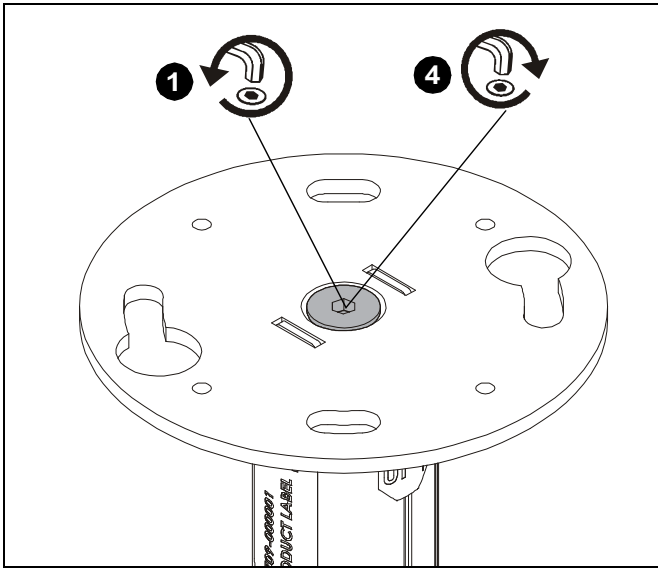

Figure 1
**NOTE:** Replacing standard button head cap screws with security screws (H) is optional depending on user preference. If not installing security screws, proceed to "Connecting to Ceiling" Section.
1. Loosen bolt on top of KITEC/KITMC Series mount (E) by turning bolt 1-2 full rotations. (See Figure 1)
4. Tighten bolt on top of KITEC/KITMC Series mount (E). (See Figure 1)